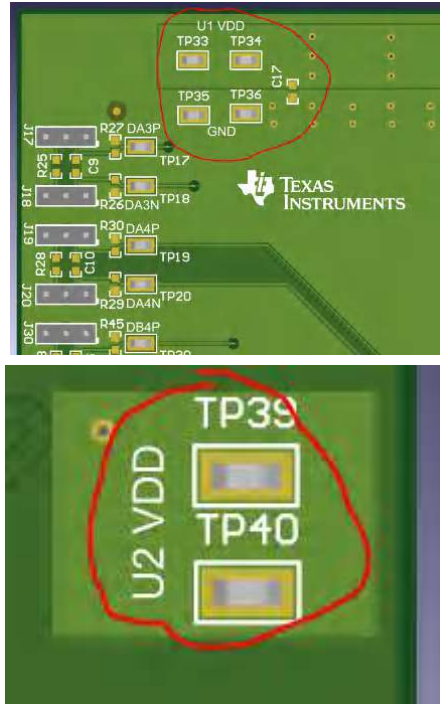

Figure 5-1. TMUX646EVM Power Connections for U1 and U2.
- Power the board by attaching a 1.65 V – 5.5 V power supply, current limited to 25 mA, with the positive terminal attached to TP33 or TP34 at the top right of the board under the label *U1 VDD*. Attached the negative terminal to TP35 or TP36 at the top right of the board above the label *GND*. The TMUX646 is now powered. To power U2, attach the positive power terminal to TP39 or TP40. Figure 5-1 below shows the test points circled in red.